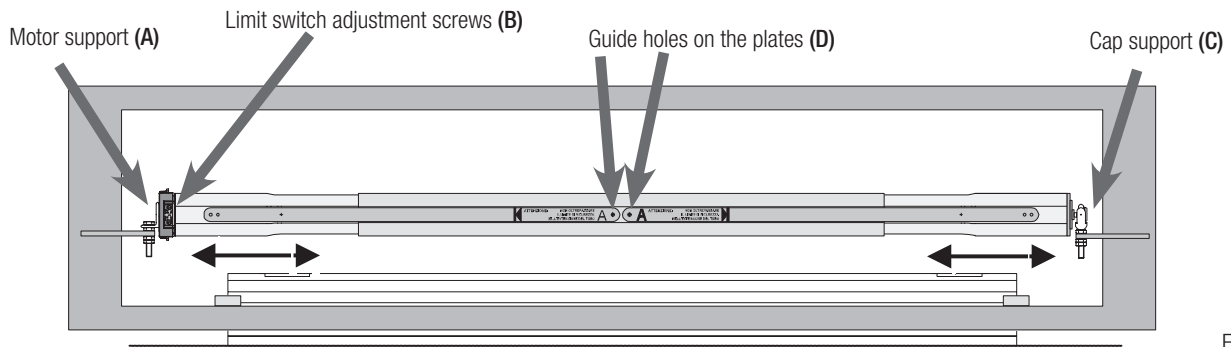

Fig. 16
1. Fit the motor head on the rapid fitting on the motor support (Fig. 16 ref. **A**). The motor must be oriented to enable access to the adjustment screws of the limit switches (Fig. 16 ref. **B**).
2. Allow the telescopic components of the electro-roller to slide until the cap is inserted on the bearing in its support (Fig. 16 ref. **C**).
3. Check if the roller is positioned perfectly horizontally, if necessary modifying the heights of the supports (Fig. 16 ref. **A-C**), with the nut-locknut system.
5. Near the guide holes on the plates (Fig. 16 ref. **D**), drill a hole with a 5mm diam. bit suitable for iron.
6. In the holes (Fig. 16 ref. **D**), screw the supplied self-tapping screws (Fig. 1 ref. **13**), firmly securing the roller components to each other.
2. Loosen the screw which fastens the plate (Fig. 16 ref. D).